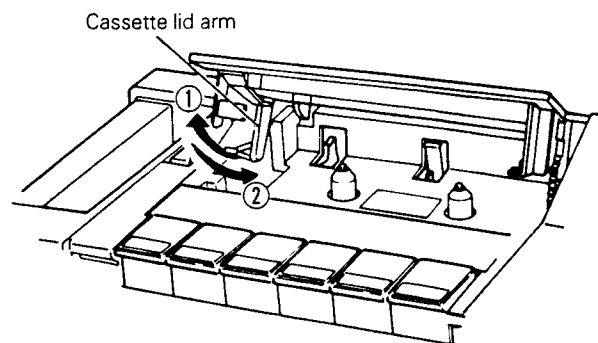

Fig. 2
- (2) Passing the boss of the cassette lid arm through the notch in the direction indicated with arrow ① as shown in Fig. 2.
- (2) Passing the cassette lid arm in the notch in the direction indicated with arrow ② as shown in Fig. 2.